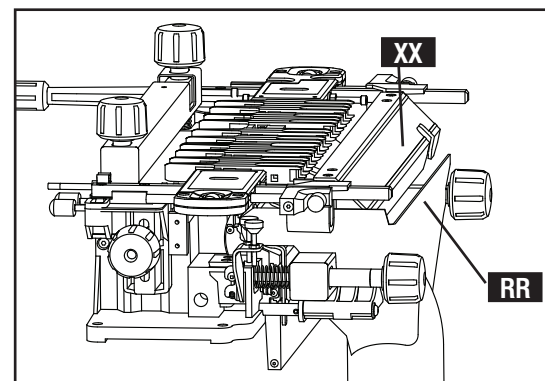
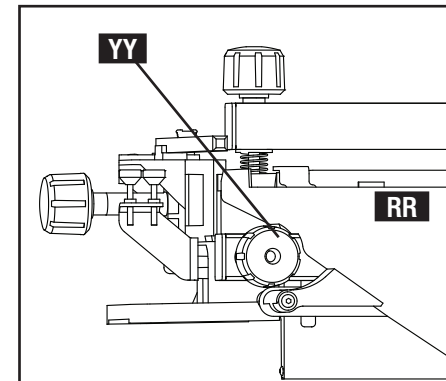
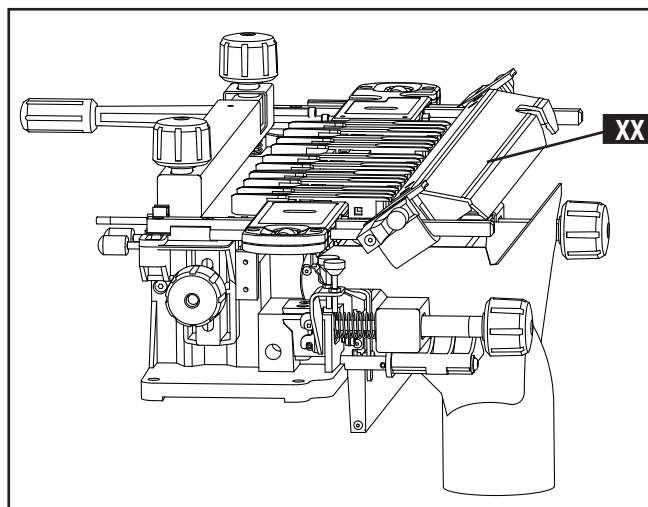

Fig. C25
Fig. C26
Fig. C27
The lip of dust shroud (RR) should rest in front of the stabilizer bar (XX) as shown in Fig. C25. Be sure the dust shroud (RR) Fig. C26 is also placed above the knob (YY).
When adding the stabilizer bar back onto the OMNIJIG when the dust shroud is attached, tilt the bar (XX) as shown in Fig. C27 and be sure it rests as shown in Fig. C25.